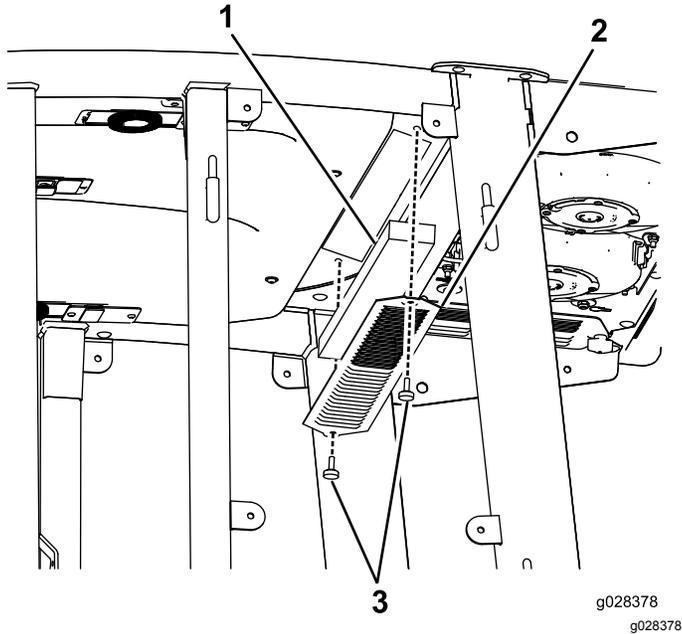
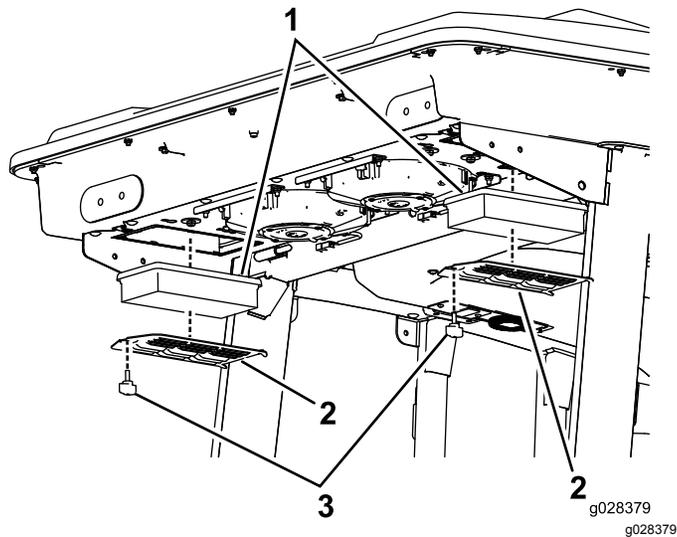
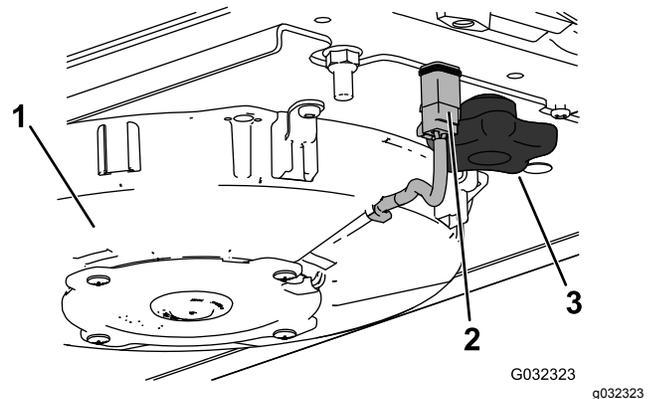

Figure 117
Figure 118
Figure 119
1. Remove the screws and grates from both the in-cab and rear cab air filters (Figure 117 and Figure 118).
5. Remove the air filters (see Figure 118).
7. Install the air filters, screen, and fan assembly (Figure 118, Figure 119, and Figure 120).
8. Connect the wire for each fan (Figure 119).